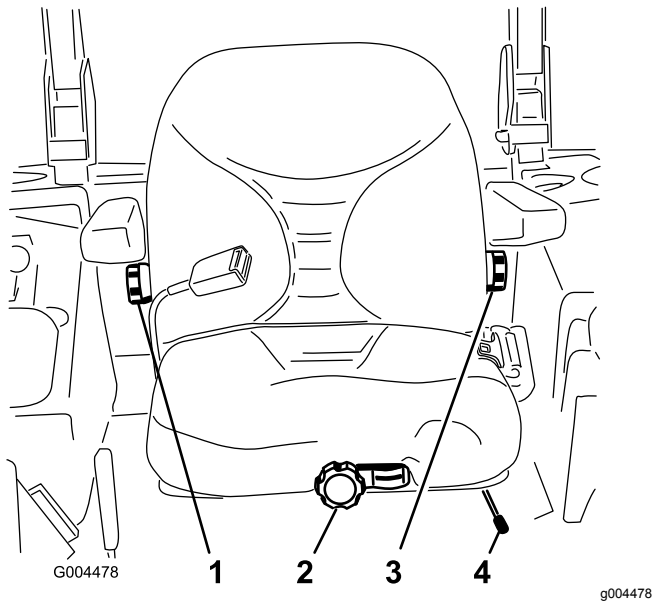

Figure 16
- To adjust the seat, move the lever sideways to unlock the seat (Figure 16).
To adjust the back of the seat, turn the knob, located under the right-side armrest, in either direction to provide the best comfort (Figure 16).
To adjust the back of the seat, turn the knob, under the left-side armrest, in either direction to provide the best comfort (Figure 16).